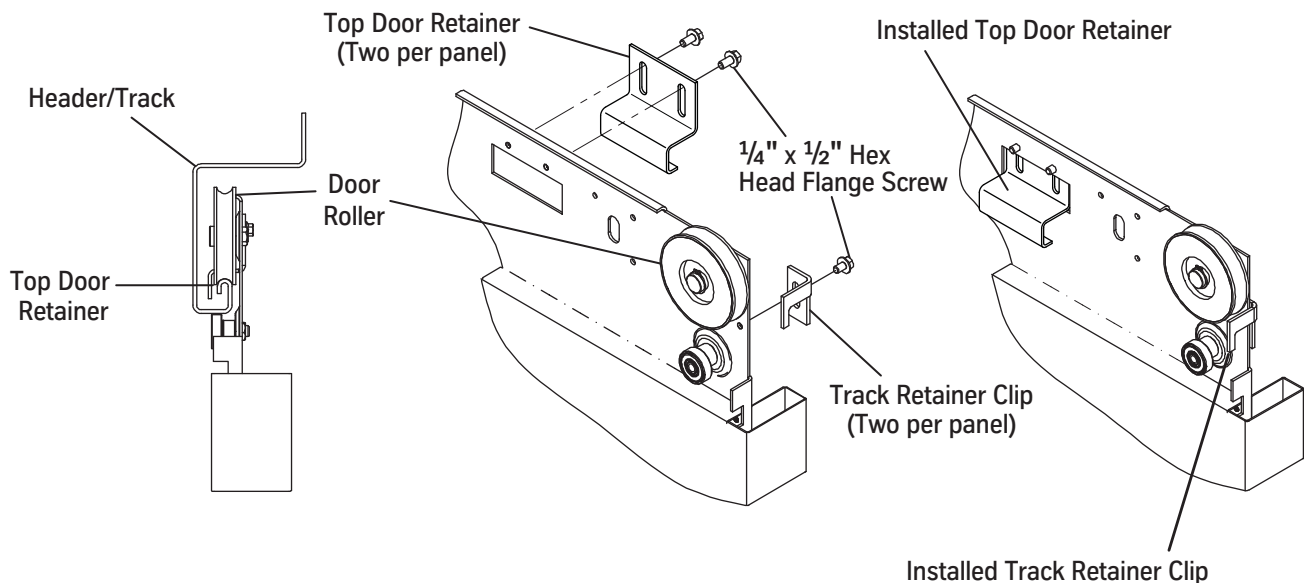

Figure 65 - Top Door Retainer
1. On each side of the door panel, use the provided hardware to install a top door retainer on the hanger. See Figure 65.